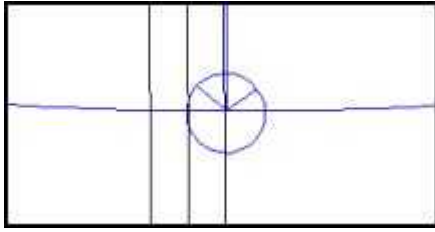

Figure 5
- 10 Hold down the left mouse button and draw a box around the area central area and release the Left Mouse Button. You will now see an enlarged area, that you just Zoomed Into, see Figure 5.
- 11 Left Click On "Production" on the Main Menu Bar, then Left Click On "Read Reference Position". Left Click at the bottom of the 'V' within the circle, see Figure 5. You will see that the scroll on screen has been re-aligned to the correct position on the Machine Bed.